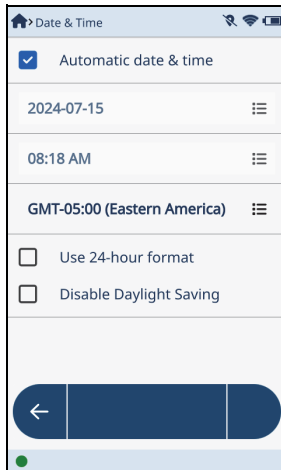

Figure 4-11 Date & Time screen
1. Tap the **Date & Time** button () in the **Menu Tray** to open the **Date & Time** screen (see Figure 4-11 on page 122).